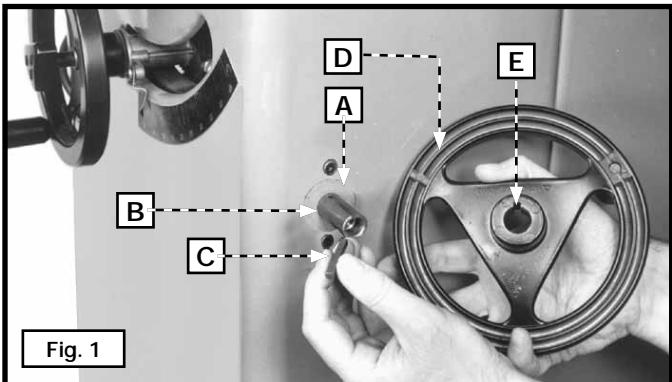

Fig. 1
**CAUTION** Remove the styrofoam packing and any other loose items from the inside of the saw cabinet. To take off the motor cover, use a hex wrench to remove the 1/4 - 20 x 5/8" hex-head screw (B) Fig. 1. Push the motor cover to one side firmly to depress the clips and pull the motor cover off. See the section "MOTOR COVER".
3. Extension wing (2)
1. Install a fiber washer (A) Fig. 1 on the blade-tilting handwheel shaft (B). Install the key (C) into the shaft keyway.
2. Place the handwheel (D) on the shaft (B) Fig. 1. Align the groove (E) in the handwheel with the key (C).